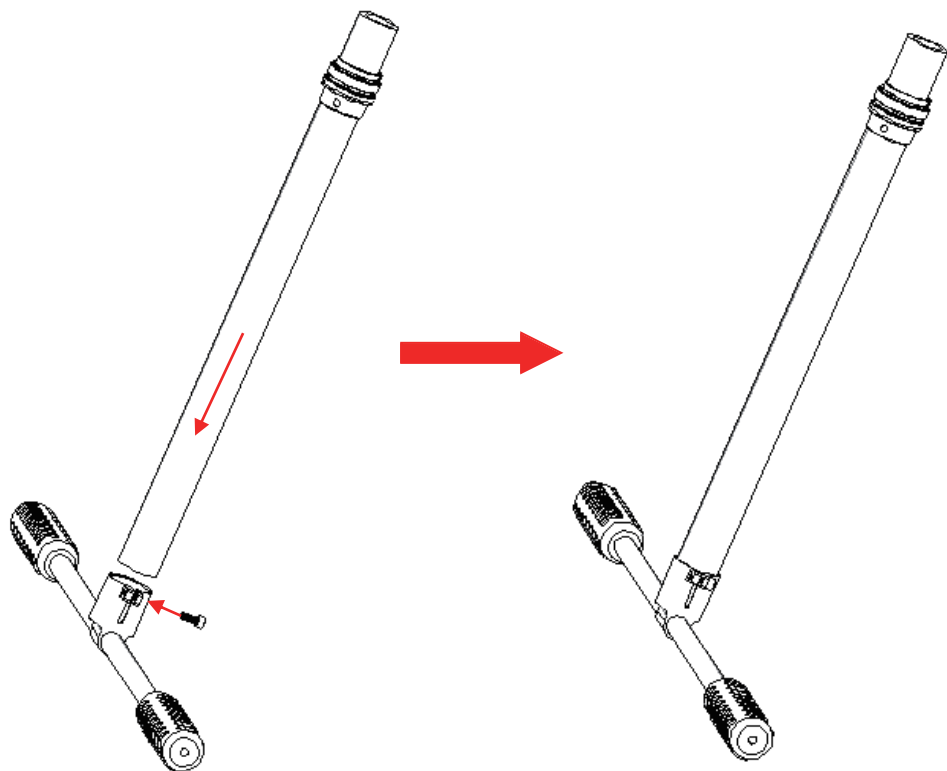

Figure 4 (Landing Gears Assembly)
4. Assemble the landings gears to the frame as per Figure 4